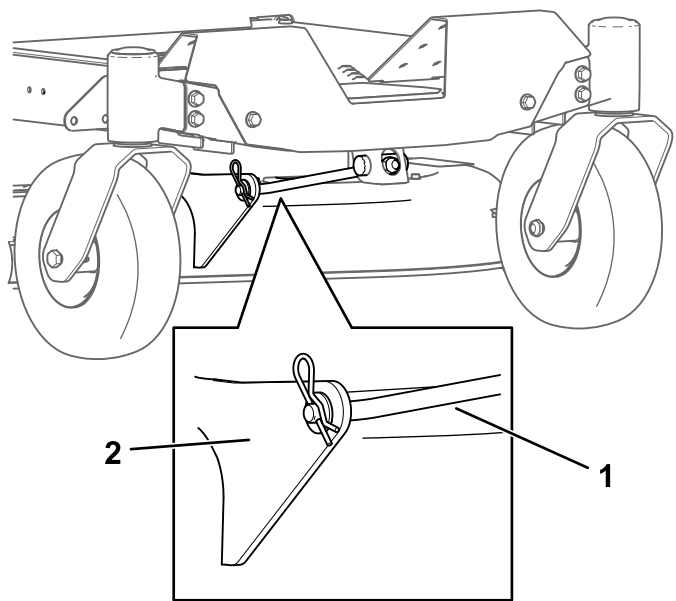

Figure 74
4. Remove the hairpin cotter from the front support rod, and remove the rod from the deck bracket (Figure 74).
8. Attach the front support rod to the mower deck with the clevis pin and hairpin cotter (Figure 74).